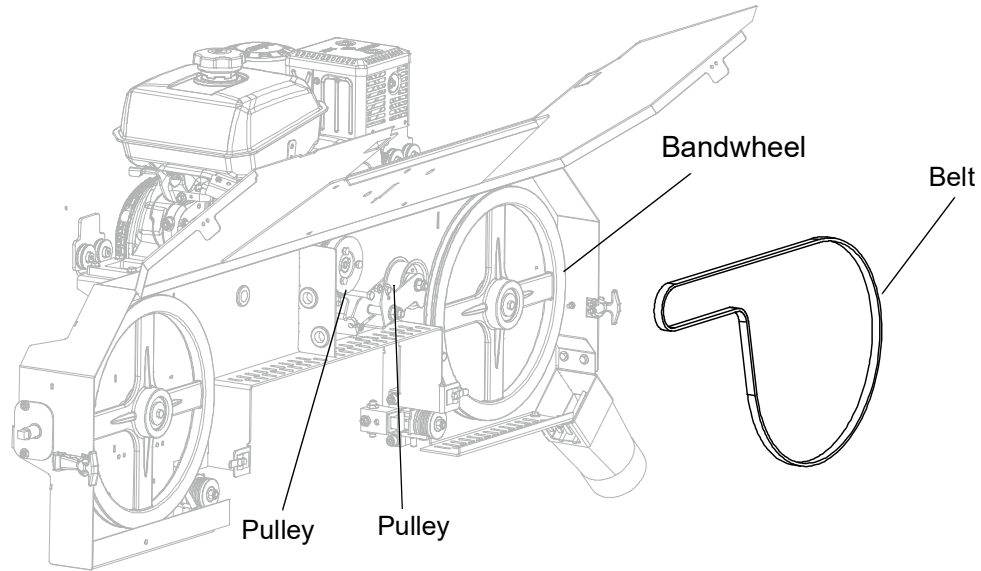

FIG. 3-22
11. Install the belt on bandwheel and pulleys. See Fig. 3-22.